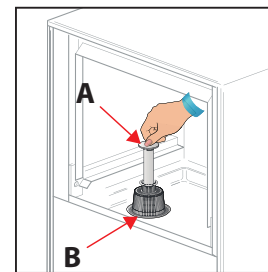

Fig.2
2. Press button (1) to put the machine in STAND-BY. Open the door and remove the OVERFLOW PIPE (A) Fig. 2 and the dishwasher will automatically empty the wash tank.
**DO NOT REMOVE THE GREY PLASTIC FILTER (B) FIG. 2. THESE PREVENT SCRAPS OF FOOD GOING DOWN INTO THE DRAIN FILTER.**
3. Once the tank has been emptied remove the PLASTIC FILTER (B) and wash all items under running water. Refit the PLASTIC FILTER (B) and the OVERFLOW PIPE (A) ready for the next use, Fig. 2.